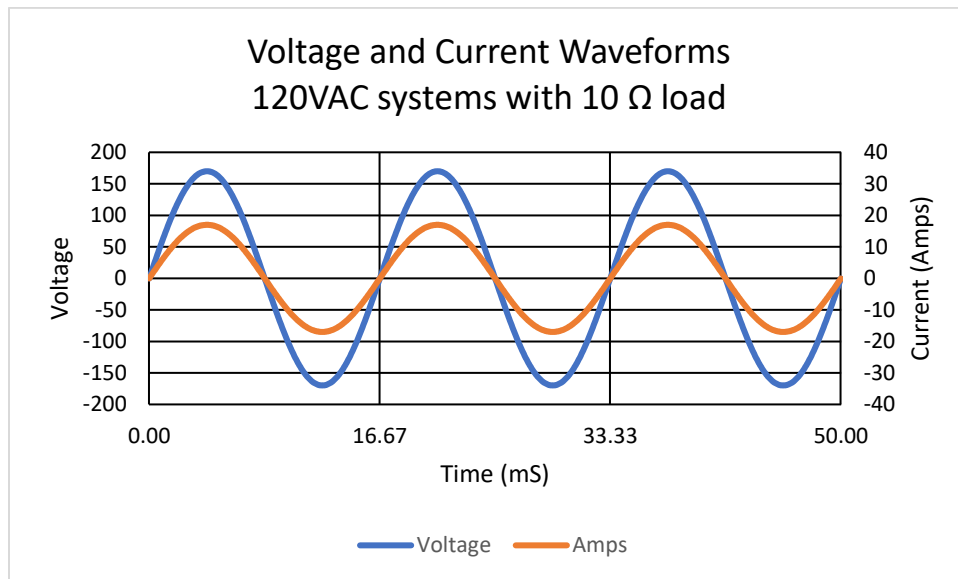

Figure 6: Voltage and Current waveforms for Example 2
This is shown graphically in Figure 6. The voltage has an RMS value of 120V and a peak value of 170V.
The examples to this point have used a purely resistive load. When this is the case, the voltage and current waveforms in an AC system are synchronized as shown in Figure 6. When voltage and current are synchronized, the waveforms cross the horizontal axis and reach peaks at the same time. When there is inductance or capacitive reactance in the system, the current and voltage will be out of sync. When the voltage and current are not in sync, the amount of useful work done by the load will be different from the power calculated by (4).